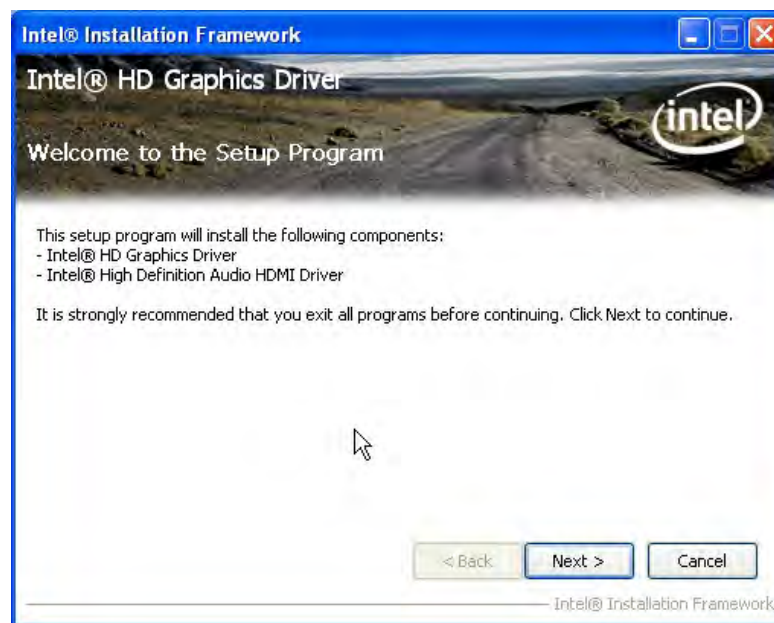

Figure 6-9: Graphics Driver Welcome Screen
Step 4: The **Welcome Screen** in **Figure 6-9** appears.